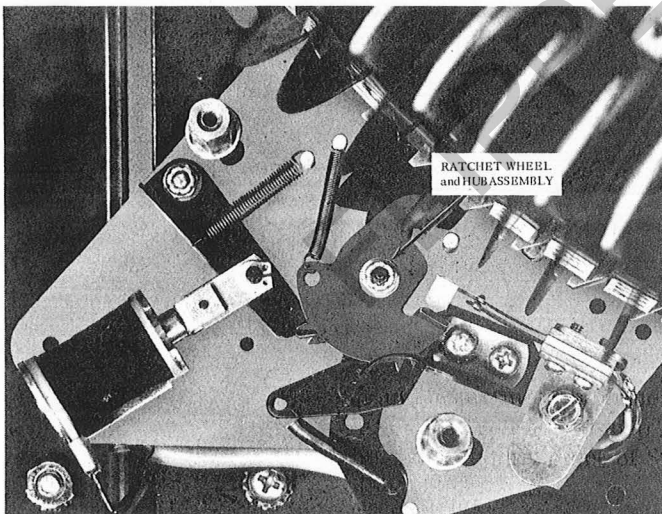

FIGURE 3
11. Verify that one escapement on the RATCHET WHEEL and HUB ASSEMBLY cancels off as shown in Figure 3.